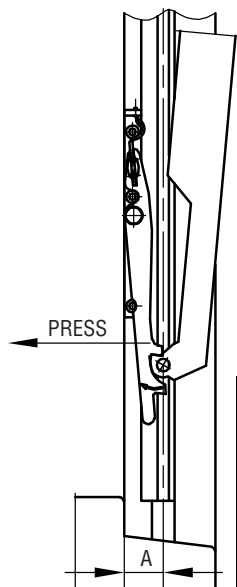

FIG. 1
2. TO OPEN THE WINDOW - CLOSE THE WINDOW APROX. 2 CM. PRESS THE SAFETY CATCH, SEE FIG. 1, IN THE DIRECTION SHOWN BY THE ARROW, THEN OPEN THE WINDOW.